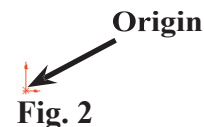

Fig. 2
Step 3. Click **Line**  (L) on the Sketch toolbar.
Step 4. Draw a line starting directly above the Origin  but do not draw the line to the Origin, **Fig. 2**. Draw a second line from the end of the first line at an angle to the right. Do not bring the angle line down to the Origin.